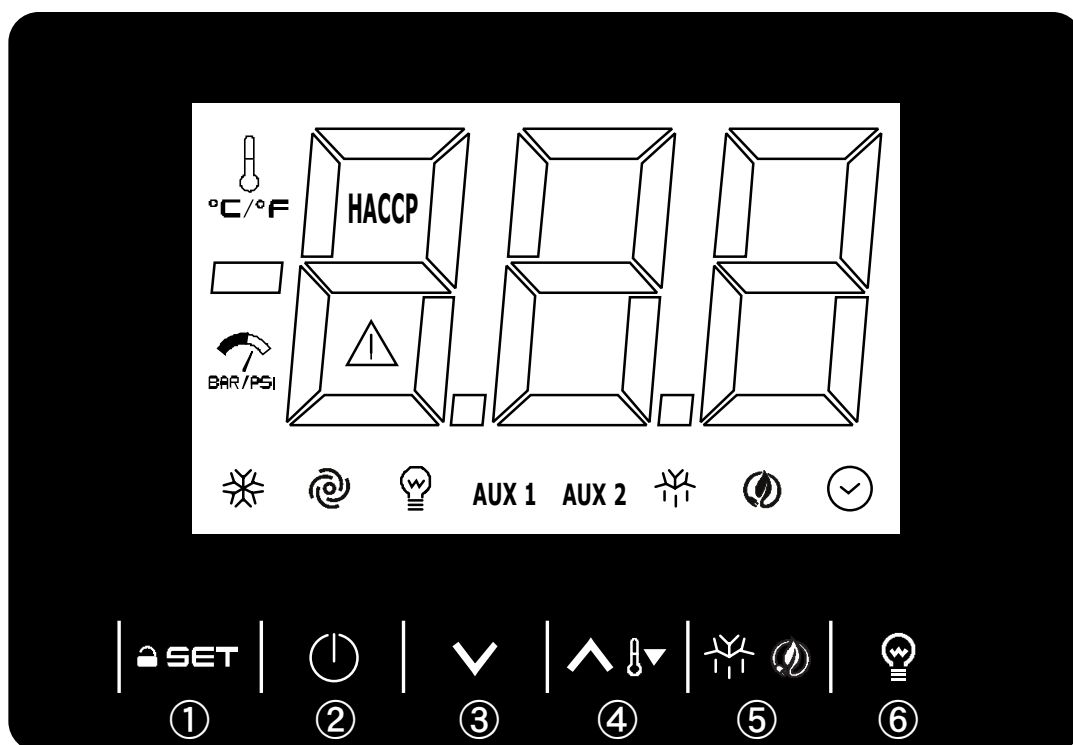

Fig.3
9.1 Description of the controls and buttons (Fig. 3)
**Start-up sequence (fig.3).**
**9.2.2 Stopping methods (fig.3)**
▶ press the on-off button (1) for 3 seconds	the display and the cabinet will turn off
**9.2.3 adjustment of the internal clock to the current time (fig. 3)**
9.2.4 Setting the temperature (Fig. 3)
9.2.5 Automatic and manual defrost (Fig. 3)
9.2.6 Keypad lock (fig.3)
9.2.7 Turning the light on / off (fig. 3)